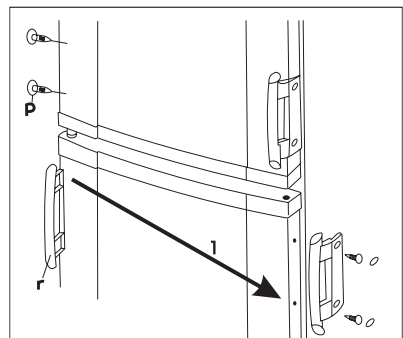

fig. 4.
19. Put over the handles (r) on the other side and put the plastic covering pins (p) supplied in the plastic bag of this instruction book into the vacant holes. (fig.4)